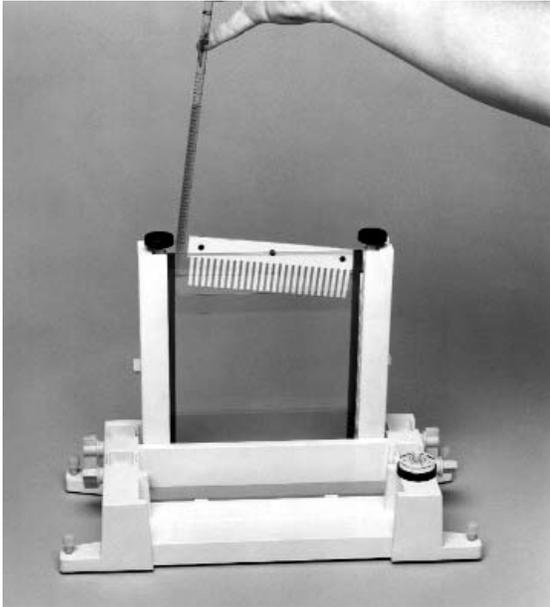

Fig. 5.5. Pouring a heteroduplex analysis gel.
3. Insert a comb in the gel sandwich and tilt it so that the teeth are at a slight angle. This will prevent air from being trapped under the comb teeth when pouring the gel solution (Figure 5.5).